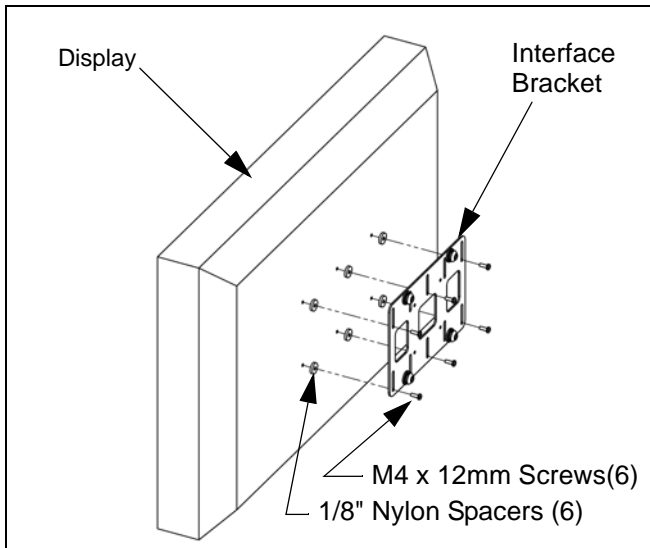

Figure 2:
1. Secure the Interface Bracket to the Display using 1/8" Nylon Spacers and M4 x 12mm screws (see Figure 2).